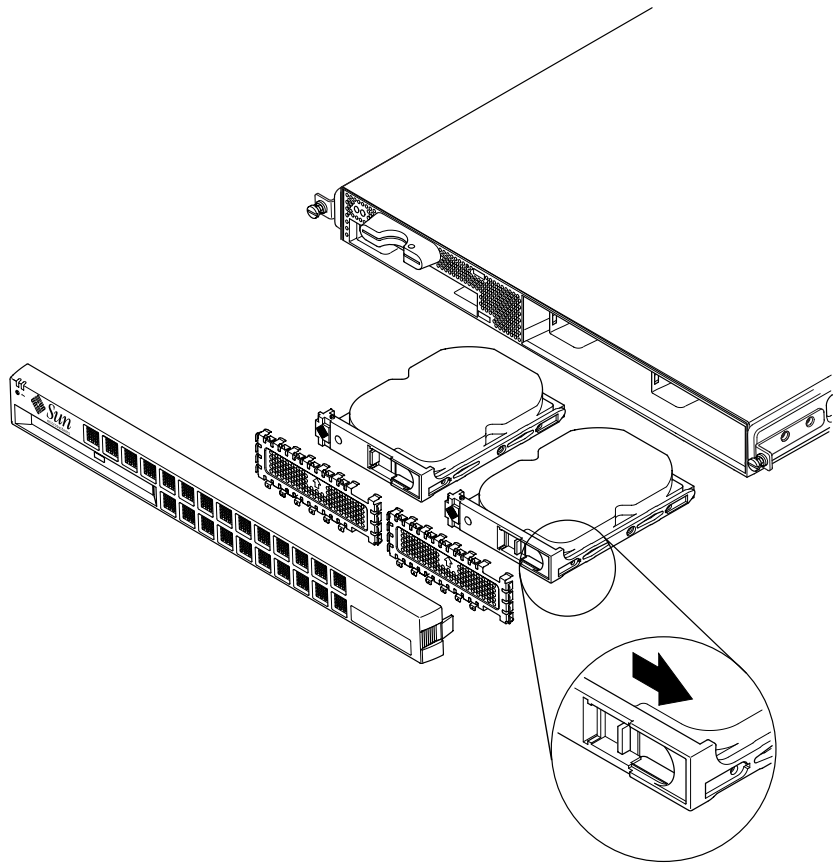

FIGURE 4-1 Inserting and Removing Hard Disks
- If you are *installing* a hard disk drive, slide it into its tray at the front of the server (see FIGURE 4-1). Push it in firmly until the metal lever starts to close: this indicates that it has engaged with the backplane connector. Then, push the metal lever until the disk drive clicks into place.
- If you are *removing* a hard disk drive, locate the latch at the front of the disk drive and slide it to the right (see FIGURE 4-1). This causes the metal lever to open. Holding the latch, pull the disk drive out of its bay.